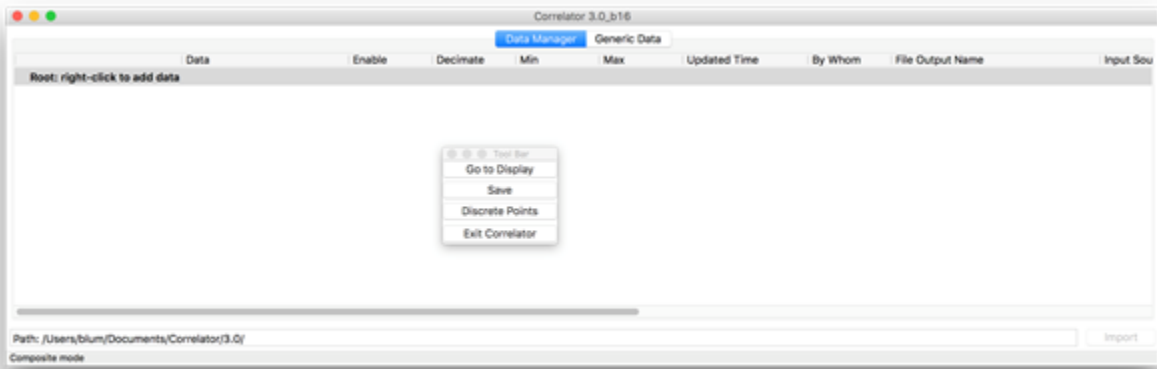
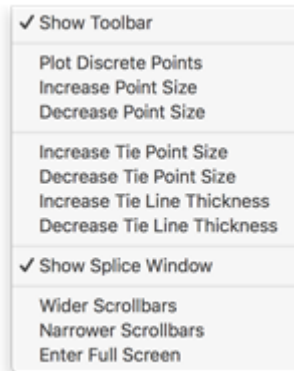

Figure 1-41. Data Manager view. Also shown is the floating tool bar, where the top button can be used to toggle to the Display view.
Figure 1-43. View menu. This menu offers fundamental display options that are very rarely changed and can typically be ignored by users.
Correlator operates within a single window that can be expanded as much as available monitor space permits. The window can be toggled between the Data Manager view (Fig. 1-41) and the Display view (Fig 1-42). To navigate between these views, use the top button on the floating tool bar (Figs. 1-41 and 1-42), which is always available on top of either view unless turned off in the View menu (Fig. 1-43).
- The Data Manager tab (Fig. 1-41) lists the files imported into Correlator and provides the functions for adding and managing the data in Correlator.
The Display Preferences are self-explanatory and not further described here. Additional, more fundamental display preferences are available in the View menu (Fig. 1-43).
- *Root* – right-click to add data (Fig. 1-41).